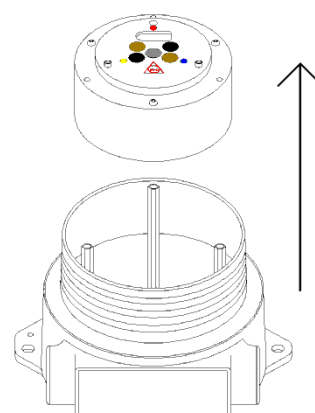

Figure 2-8
- Slide the Detector Module “puck” out of the enclosure base (see Figure 2-8).